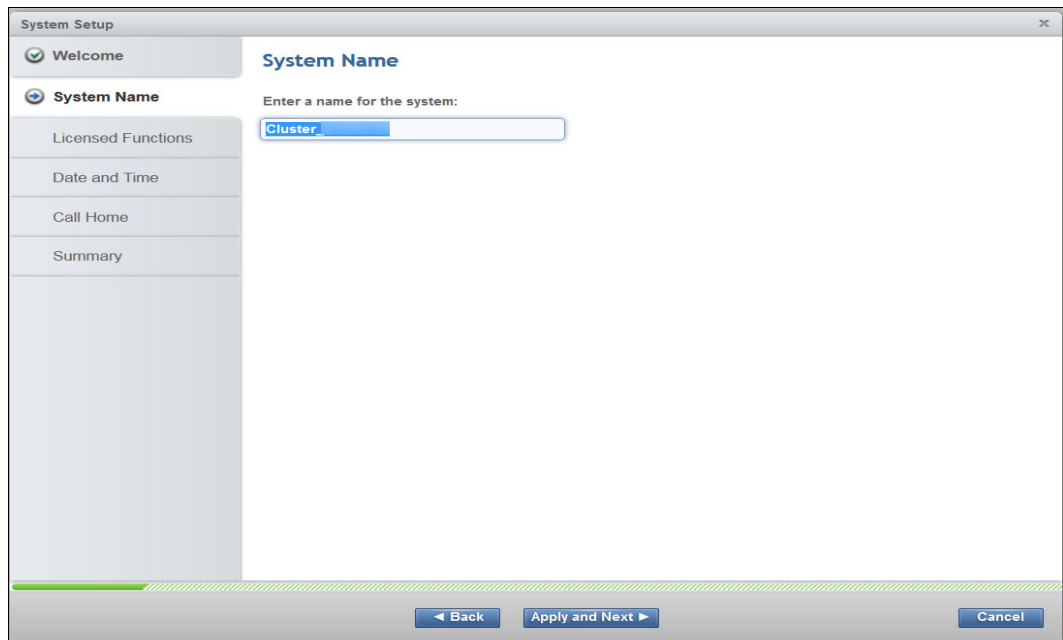

Figure 6-10 System Name change
1. Enter the name, and then click **Apply and Next** (Figure 6-10).